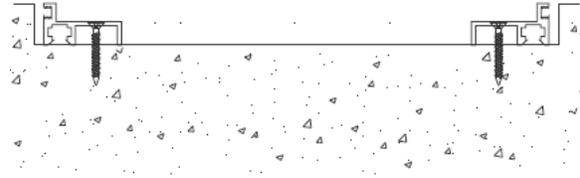

Figure 8
STEP 13. Select the frame anchors. Using the anchors provided by the factory, attach the After the concrete or grout has cured, remove the wood bracing from the frame (see Figure 8). Ensure that the wood bracing can be removed without allowing the frame to bow.